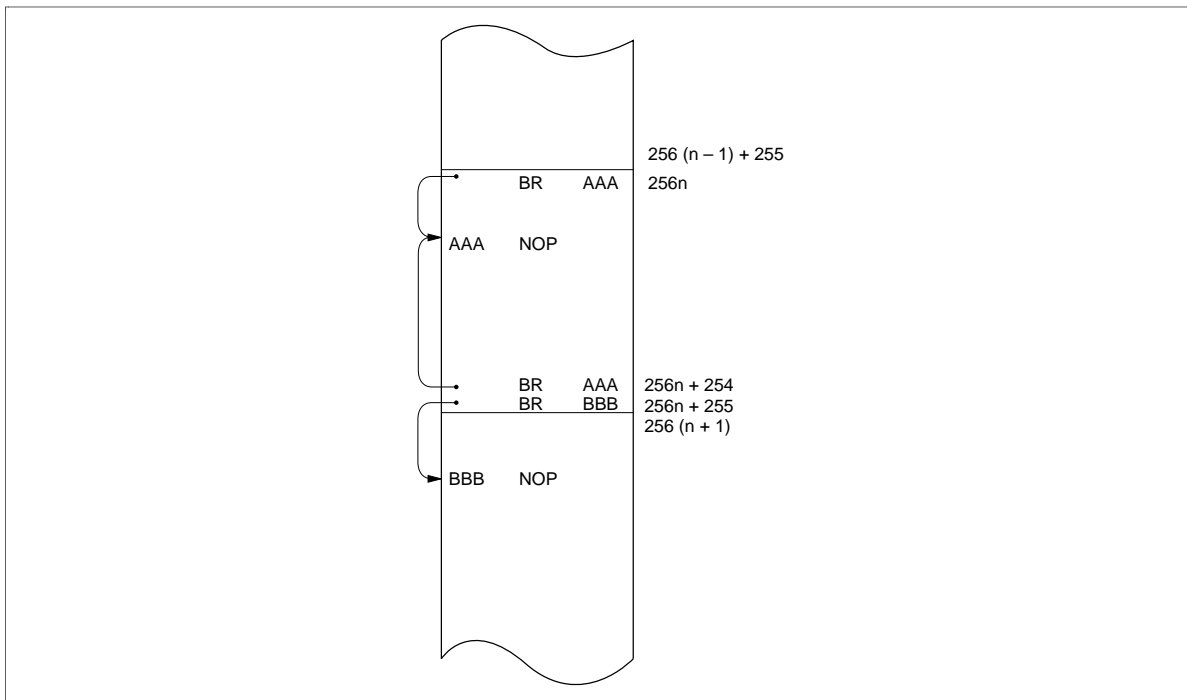

Figure 87 Branching when the Branch Destination is on a Page Boundary
**Current Page Addressing Mode:** The MCU has 64 pages of ROM with 256 words per page. A program can branch to any address in the current page by executing the BR instruction. This instruction replaces the eight low-order bits of the program counter ( $PC_7$ – $PC_0$ ) with eight-bit immediate data. If the BR instruction is on a page boundary (address  $256n + 255$ ), executing that instruction transfers the PC contents to the next physical page (figure 87). This means that the execution of the BR instruction on a page boundary will make the program branch to the next page.